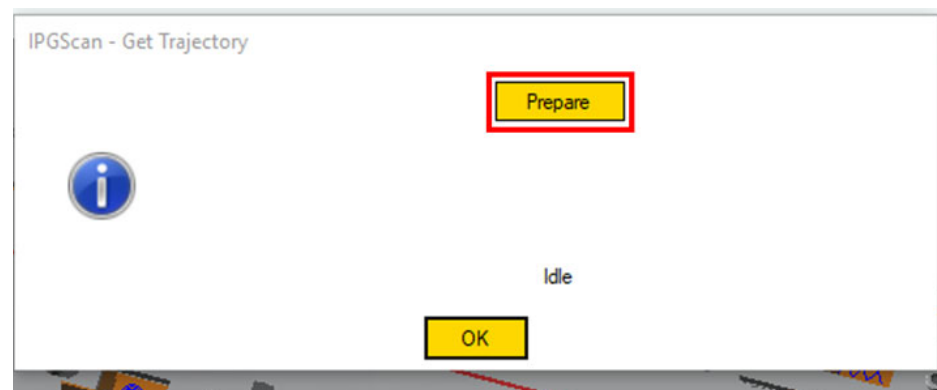

Figure 305: Preparing for Recording
3. Press "Prepare" to prepare IPGScan and the robot for recording. See Figure 305 (below).